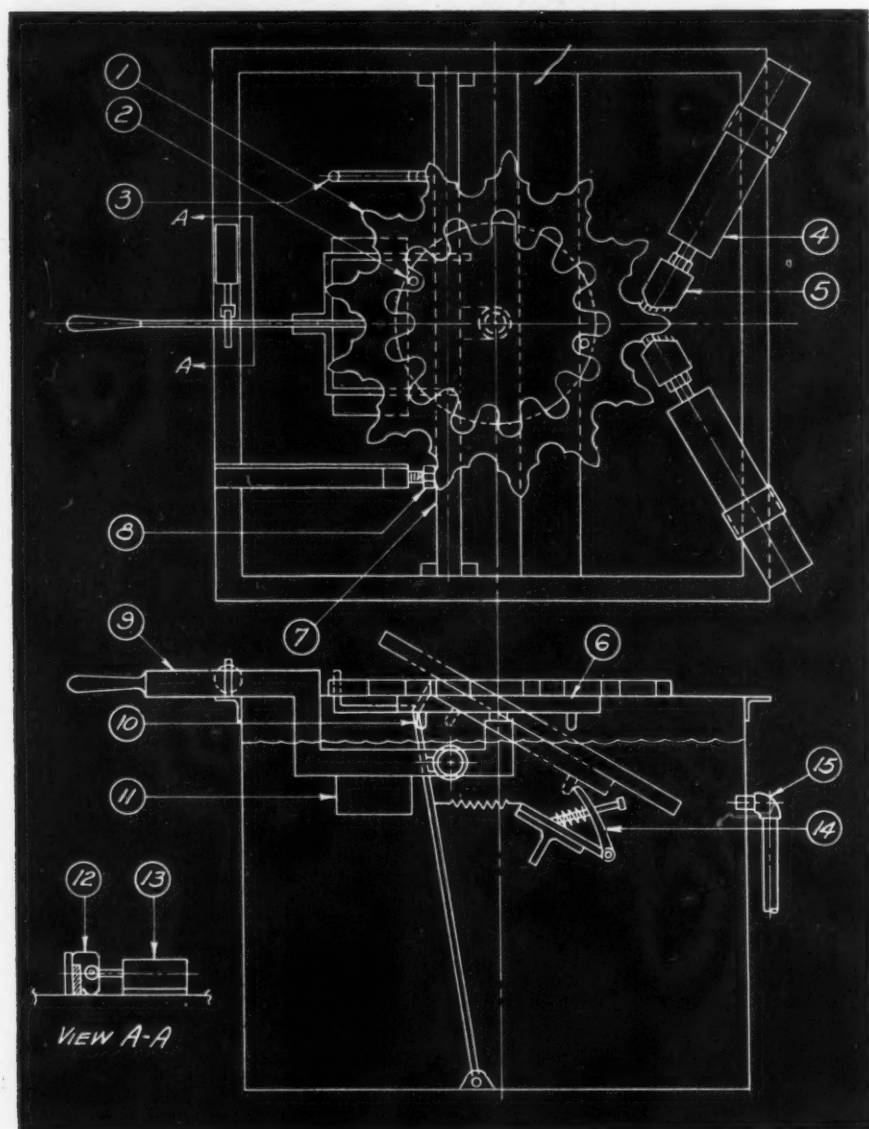

Fig. 6. A Semi-automatic Operation Applied to Spot Flame Sprocket Hardening
In one plant, a semi-automatic sprocket flame-hardening machine is installed which is operated by electric timers and air controls. The principles involved in this machine are shown diagrammatically in Fig. 6. Sprocket (1) is mounted horizontally on a turntable (6) with a vertical shaft which is set in the center of a steel water tank. The sprocket is accurately positioned on this table by two locating pins (2). Two torches (4) are mounted rigidly on the top of the tank so that the two multi-flame tips used will heat both sides of a sprocket tooth simultaneously.